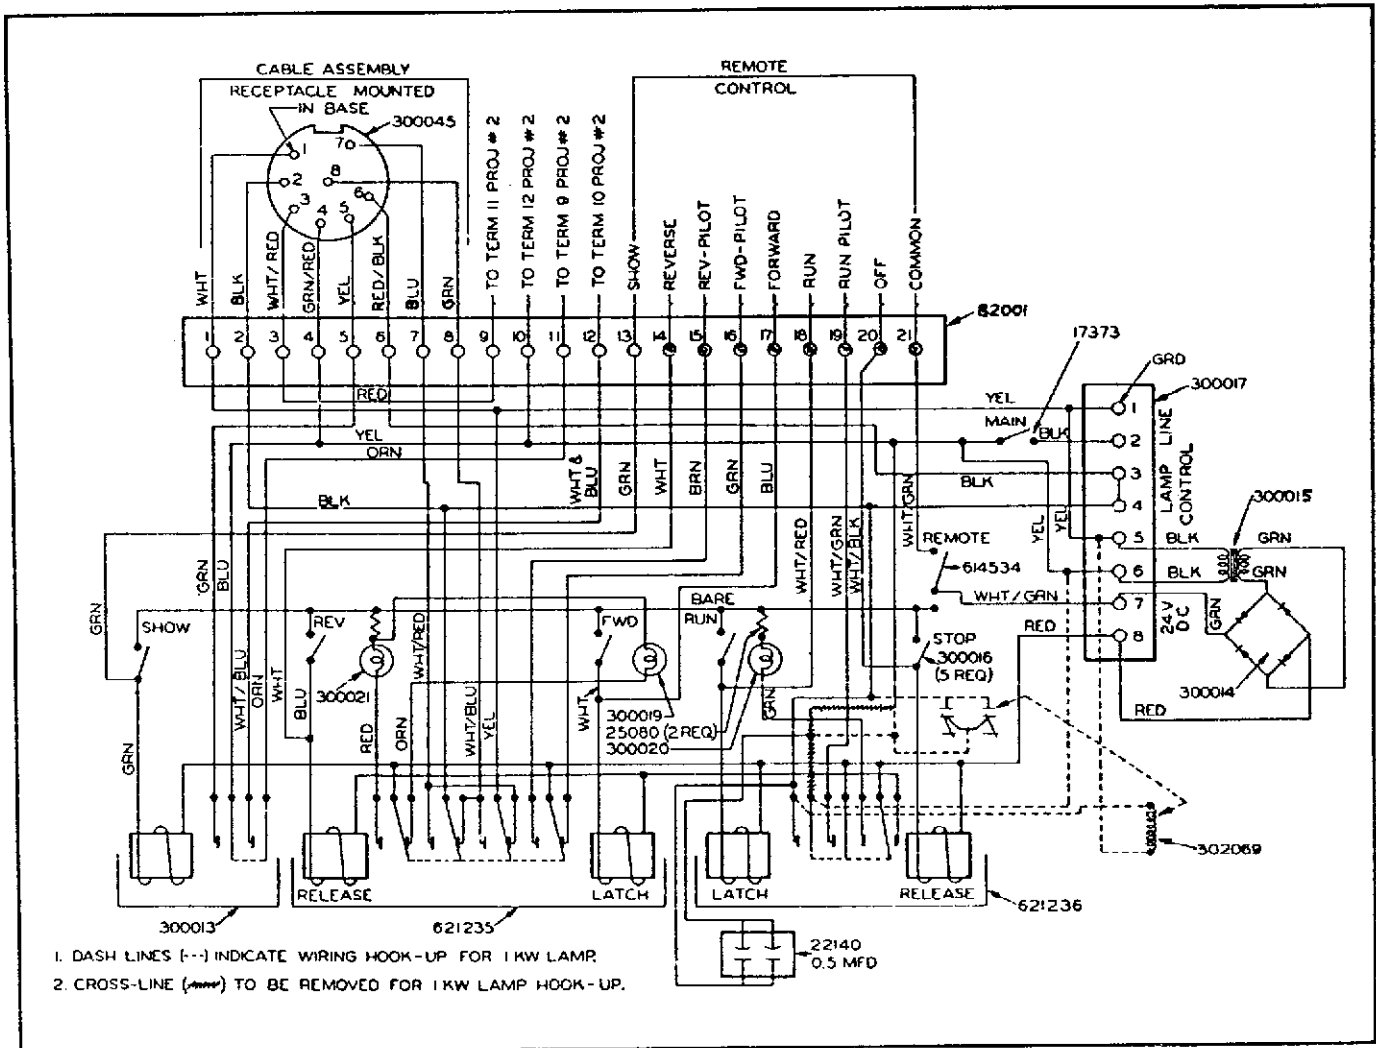
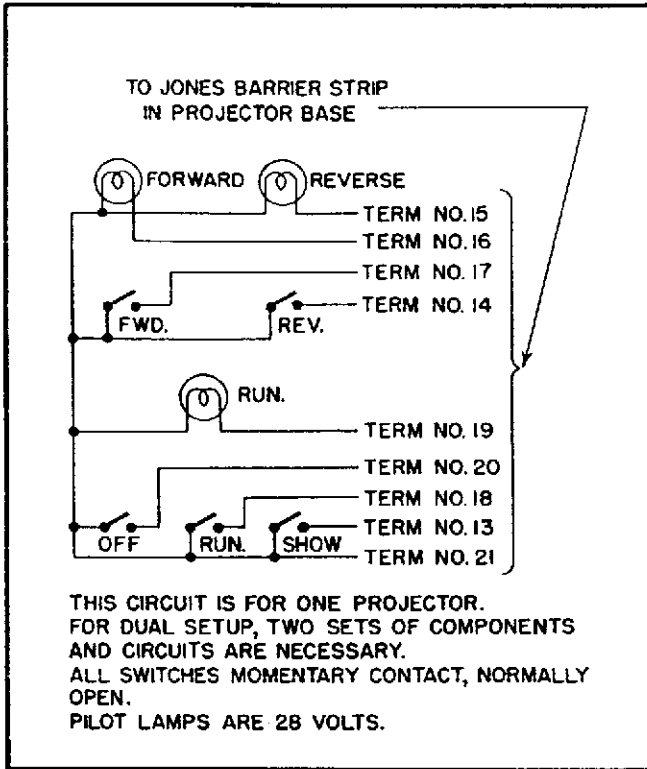
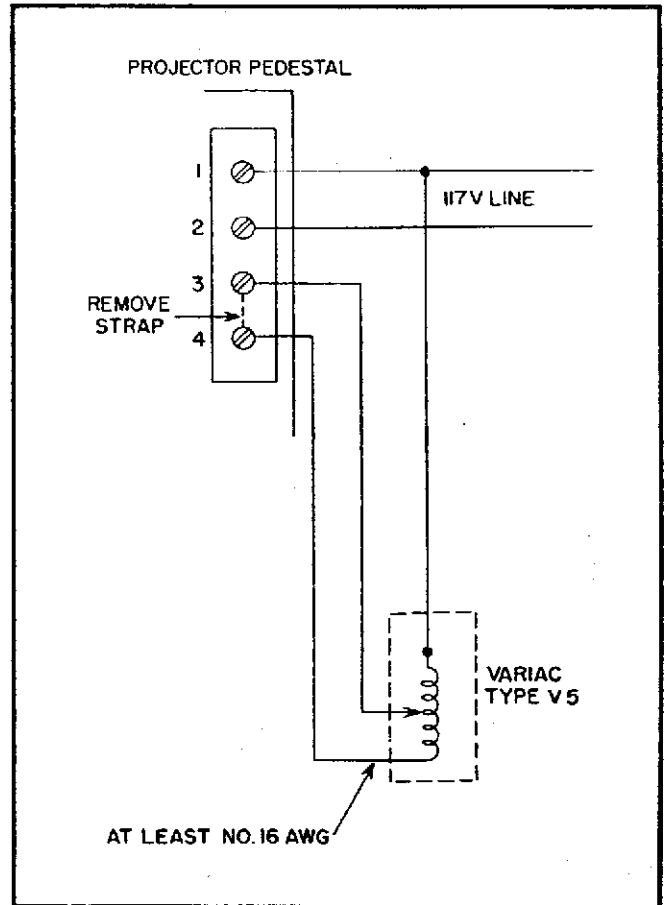

Figure 5. Pedestal Control Cabinet Wiring Diagram
Figure 6. Remote Panel Wiring Diagram
Figure 7. Projection Lamp Intensity Control Circuit
a. Connect a separate 117-volt A.C. line to each cabinet (term. 1 and 2 of short terminal strip, figure 5).
c. Wire up the remote control panel. (See figure 6.) From one projector, connect terminals 13, 14, 15, 16, 17, 18, 19, 20, and 21 (figure 5) to one remote panel section. Repeat these connections from the second projector to the second remote panel section.
e. If projection lamp intensity control is desired, remove the jumper between terminals 3 and 4 on the short terminal strip (figure 5) and connect in a Variac, General Radio Type V5, or equal. Refer to figure 7 for circuit.